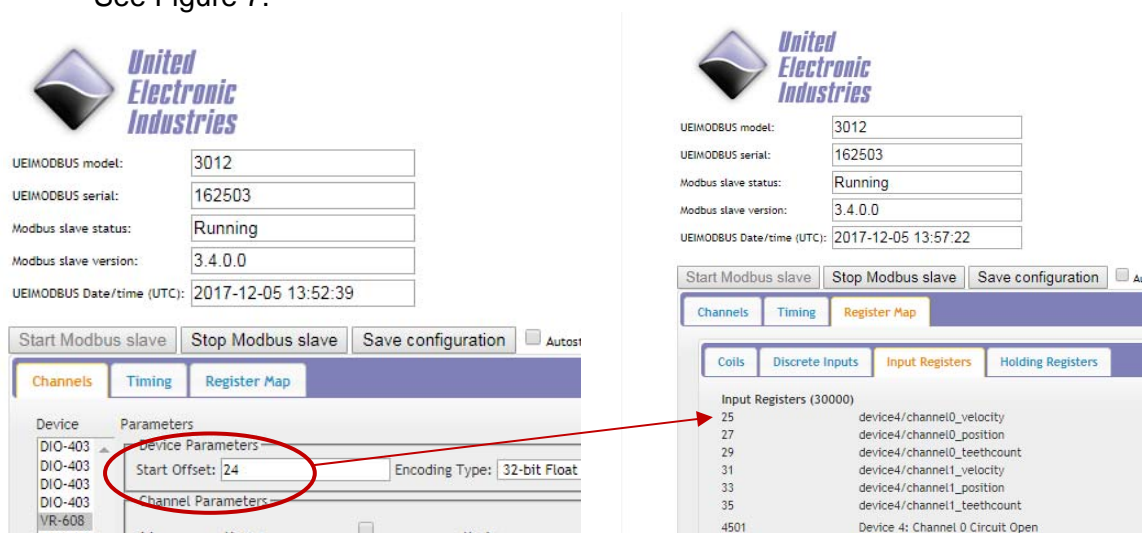

Figure 7 UEIModbus Start Offset Setting Mapped to Register Address
- **Start Offset = <zero-based offset value>:** Input and/or Holding Registers for the specified I/O device will have the register address mapped to the <offset value> (subsequent enabled channels on the I/O board will increment the address by the number of registers the data type requires). Coil and Discrete Input Registers for this I/O board will still have the register start address mapped to the I/O board position in the chassis (board in slot 0 will have the start address mapped to 0, board in slot 1 will have the start address mapped to 1000, board in slot 2 will have the start addresses mapped to 2000, etc.) See Figure 7.